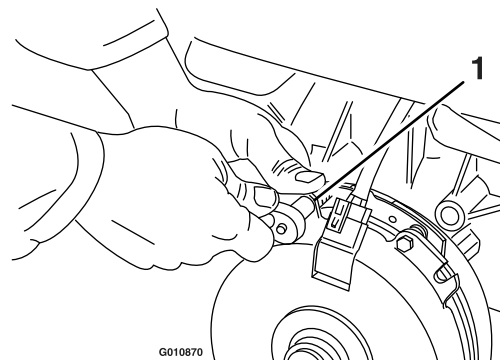

Figure 83
- A. Loosen both brake-mounting bolts 1/2 to 1 full turn as shown in Figure 83.